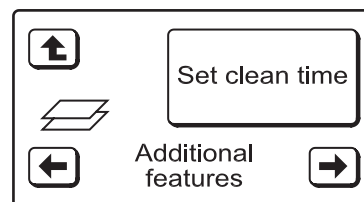

FIG. 61
5. Press the RIGHT (→) button to display the screen shown in Figure 61.